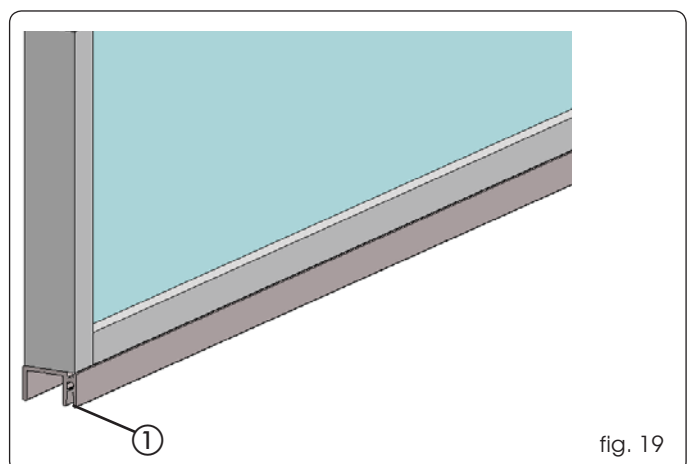

fig. 19
5. If specified, insert the brush in the seat of the sliding profile Fig. 19 ref. ①.